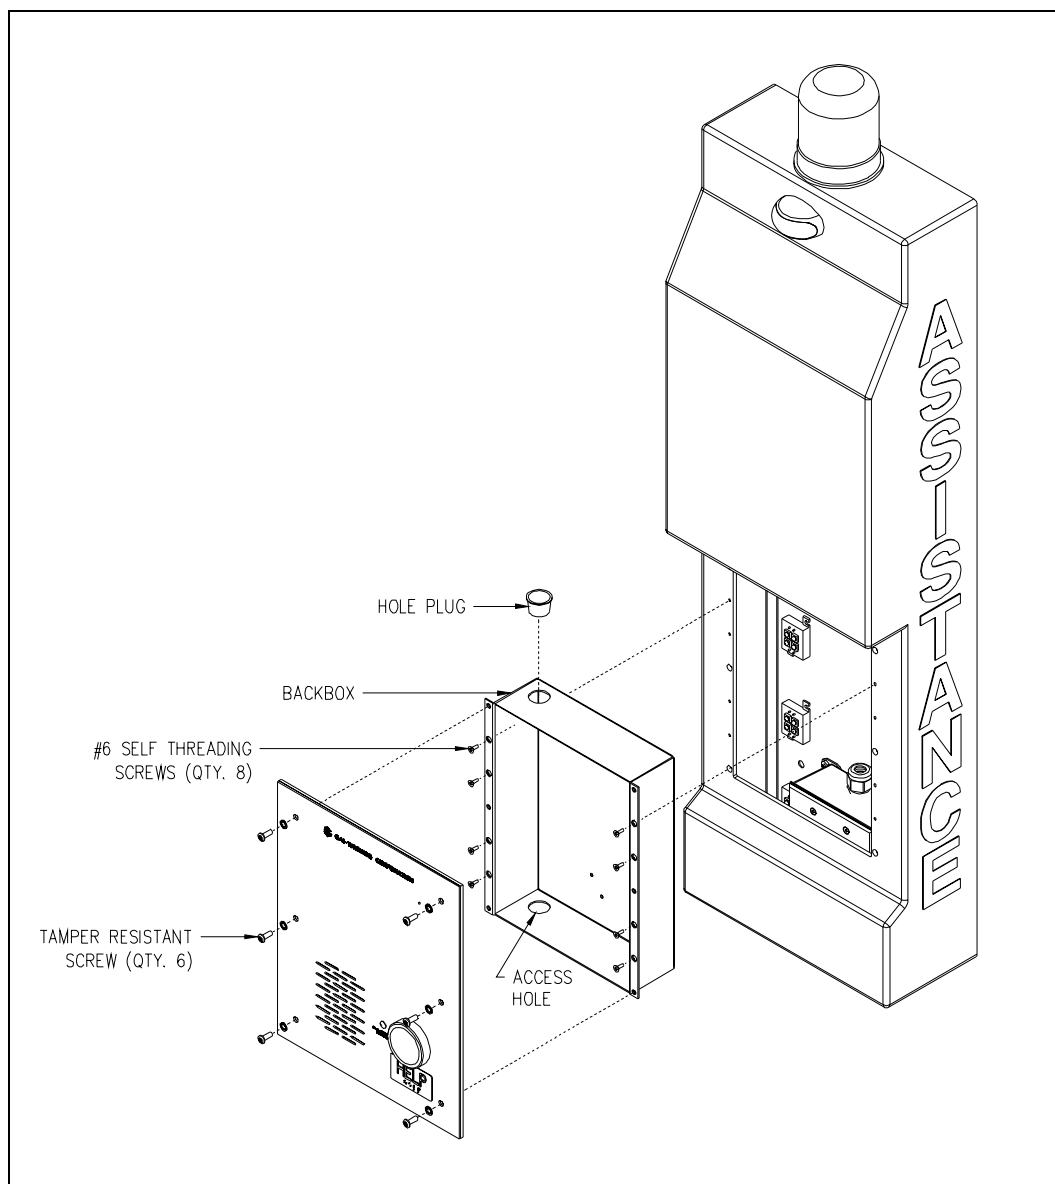

Figure 9. Telephone Installation
5. Place the back box into the phone opening from the front of the stanchion. Mount the box using the eight 6-32 self-tapping flat head screws supplied in the stanchion's parts envelope. Refer to Figure 9.
9. Install the phone's front panel using the six tamper-resistant screws and six washers provided with the phone. Figure 9. **Do not over-tighten.** Excessive tightening will cause the panel to warp.